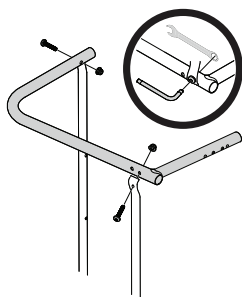

Figure 5
4. Attach additional corner tube to free ends of upright tubes, aligning with mounting holes and secure with two pan head screws and two hex nuts as shown in Figure 5.
5. Tighten all of the hardware installed at this time with torx tool and 1/2" wrench as shown in inset of Figure 5.